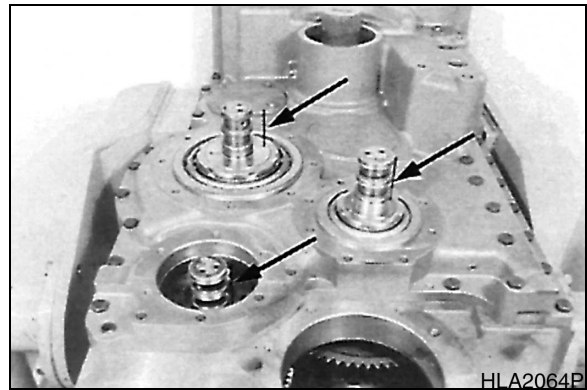

Figure 100
11. Remove rectangular rings (3 pieces/axle), see Figure 100.